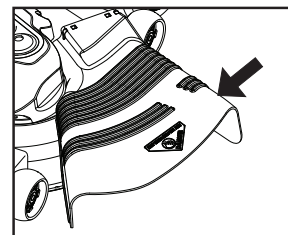

Fig. 13
**CAUTION:** Do not operate the mower without either the entire grass catcher, on mowers so equipped, or the deflector chute in place (See Fig. 13).
### USING THE REVERSE OPERATION SYSTEM (See Fig. 13)